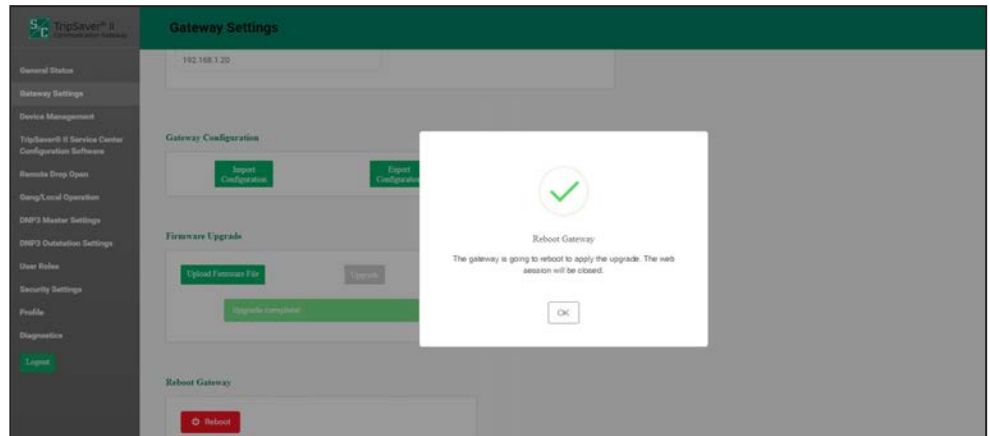

Figure 34. The dialog box showing the firmware upgrade is complete.
**STEP 8.** When the gateway has completed processing the upgrade, a notification will appear. See Figure 34. When the user clicks on the **OK** button on this notification, the browser will display a screen indicating the gateway is unavailable while it reboots. The gateway will take approximately 5 minutes to reboot. The user interface will automatically load the *Login* screen after the reboot completes. See Figure 11 on page 21. Log in and confirm the new firmware has been installed successfully by going to the *General Status* screen.